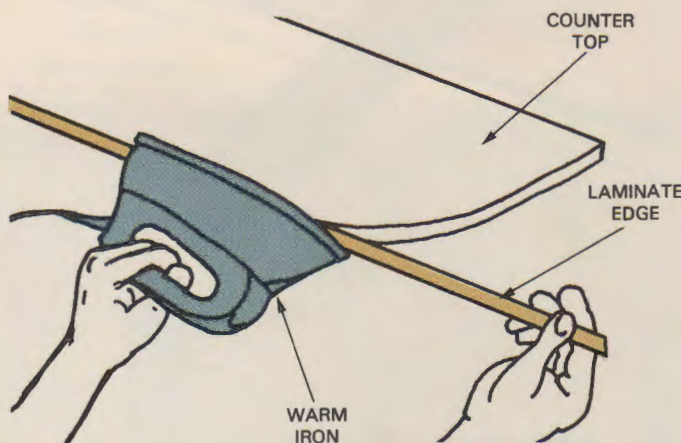

Fig. 36-15. Heating a post forming grade laminate makes it flexible. Pull the laminate around the curve and press it against the core.
5. In one hand, hold a warm (300 °F.) iron to the laminate. (A heat lamp can also be used.) With the other hand, pull the laminate around the curve, Fig. 36-15.